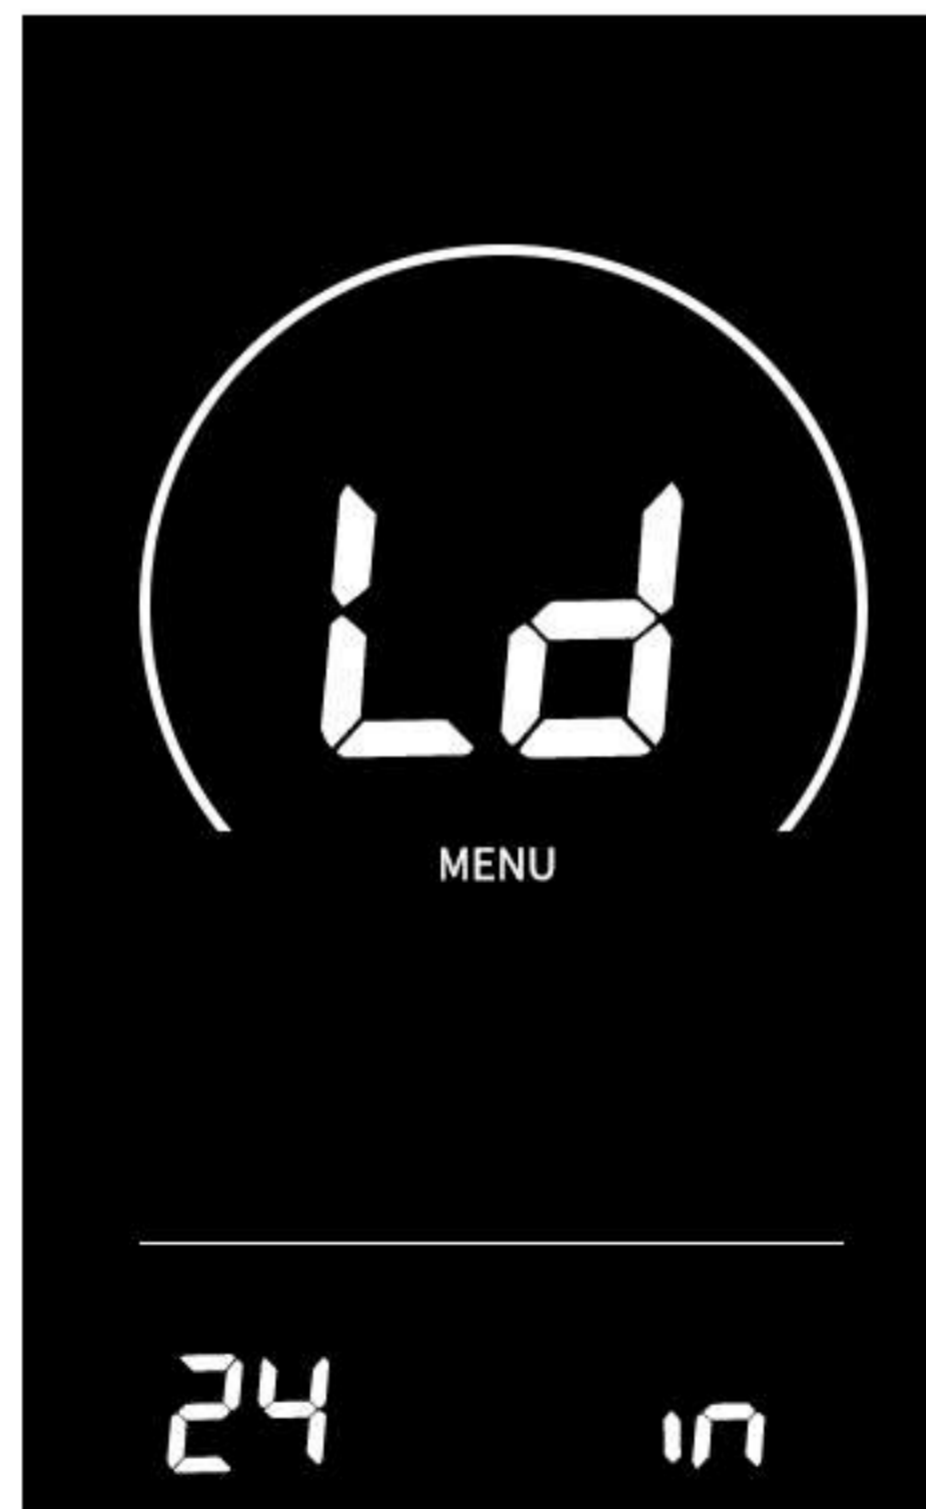

Fig2.2.2
Step 2: Press and hold the **-** **i** key again simultaneously for more than 4 seconds to enter the parameter setting (Fig2.2.2)